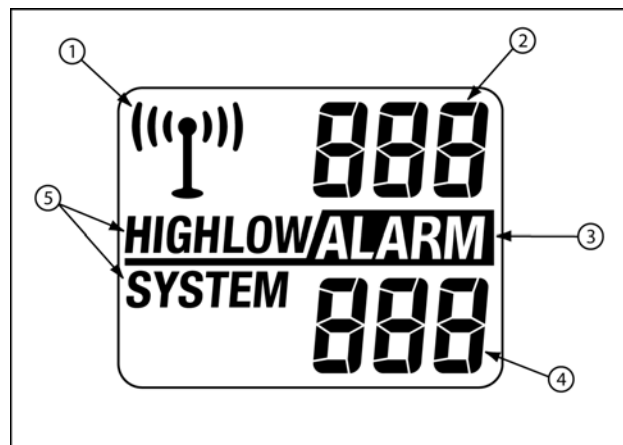

Figure 3. Base Display Elements
- Figure 3 and Table 4: Base Display Elements (describe the base station display elements).